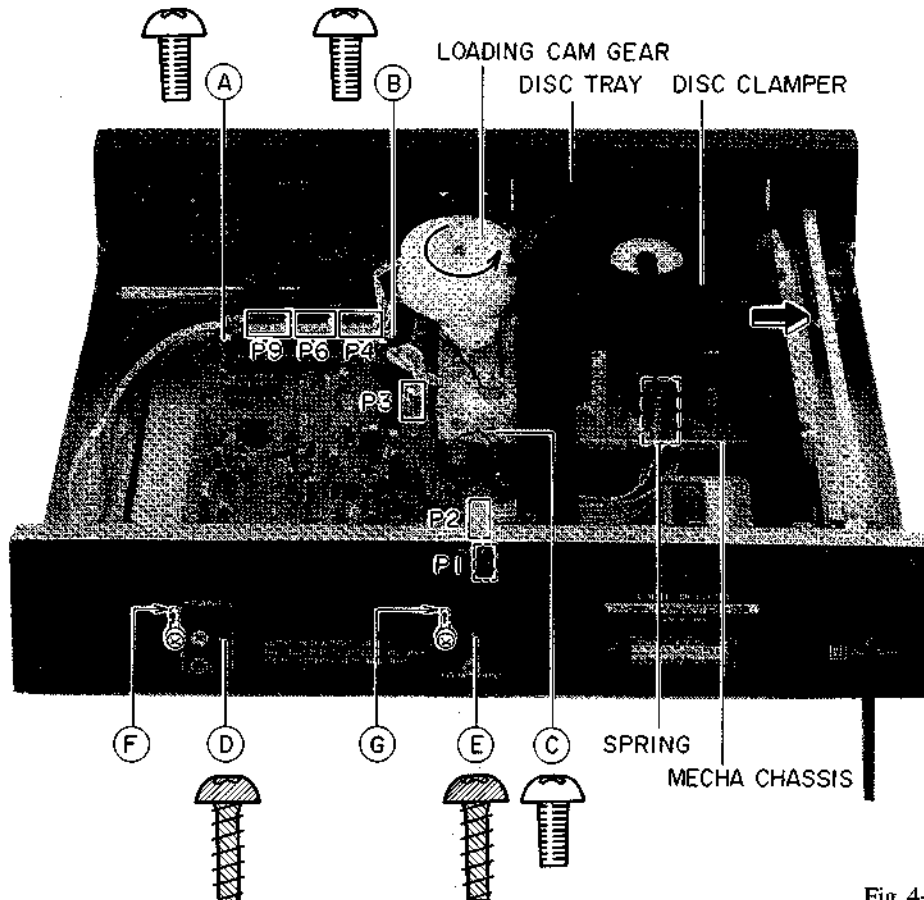

Fig. 4-1
- 2) Remove the MAIN PCB fixing screws (A), (B), (C), (D) and (E), also resolder (F) and (G), then remove the MAIN PCB. (Refer to Fig. 4-1)
- * Reassemble in reverse order. (Refer to Fig. 4-1)